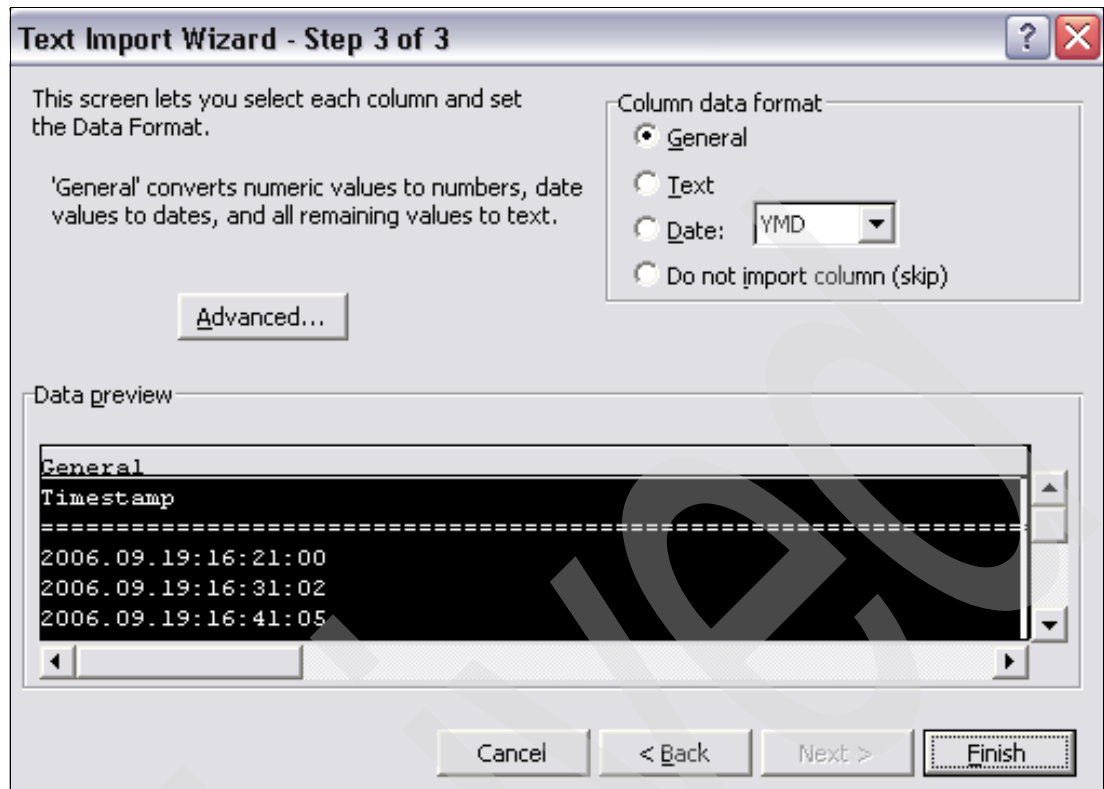

Figure 6-61 Select Finish to complete the wizard
6. After you select the delimiter, you click **Next** and then click **Finish** (see Figure 6-61 on page 288).